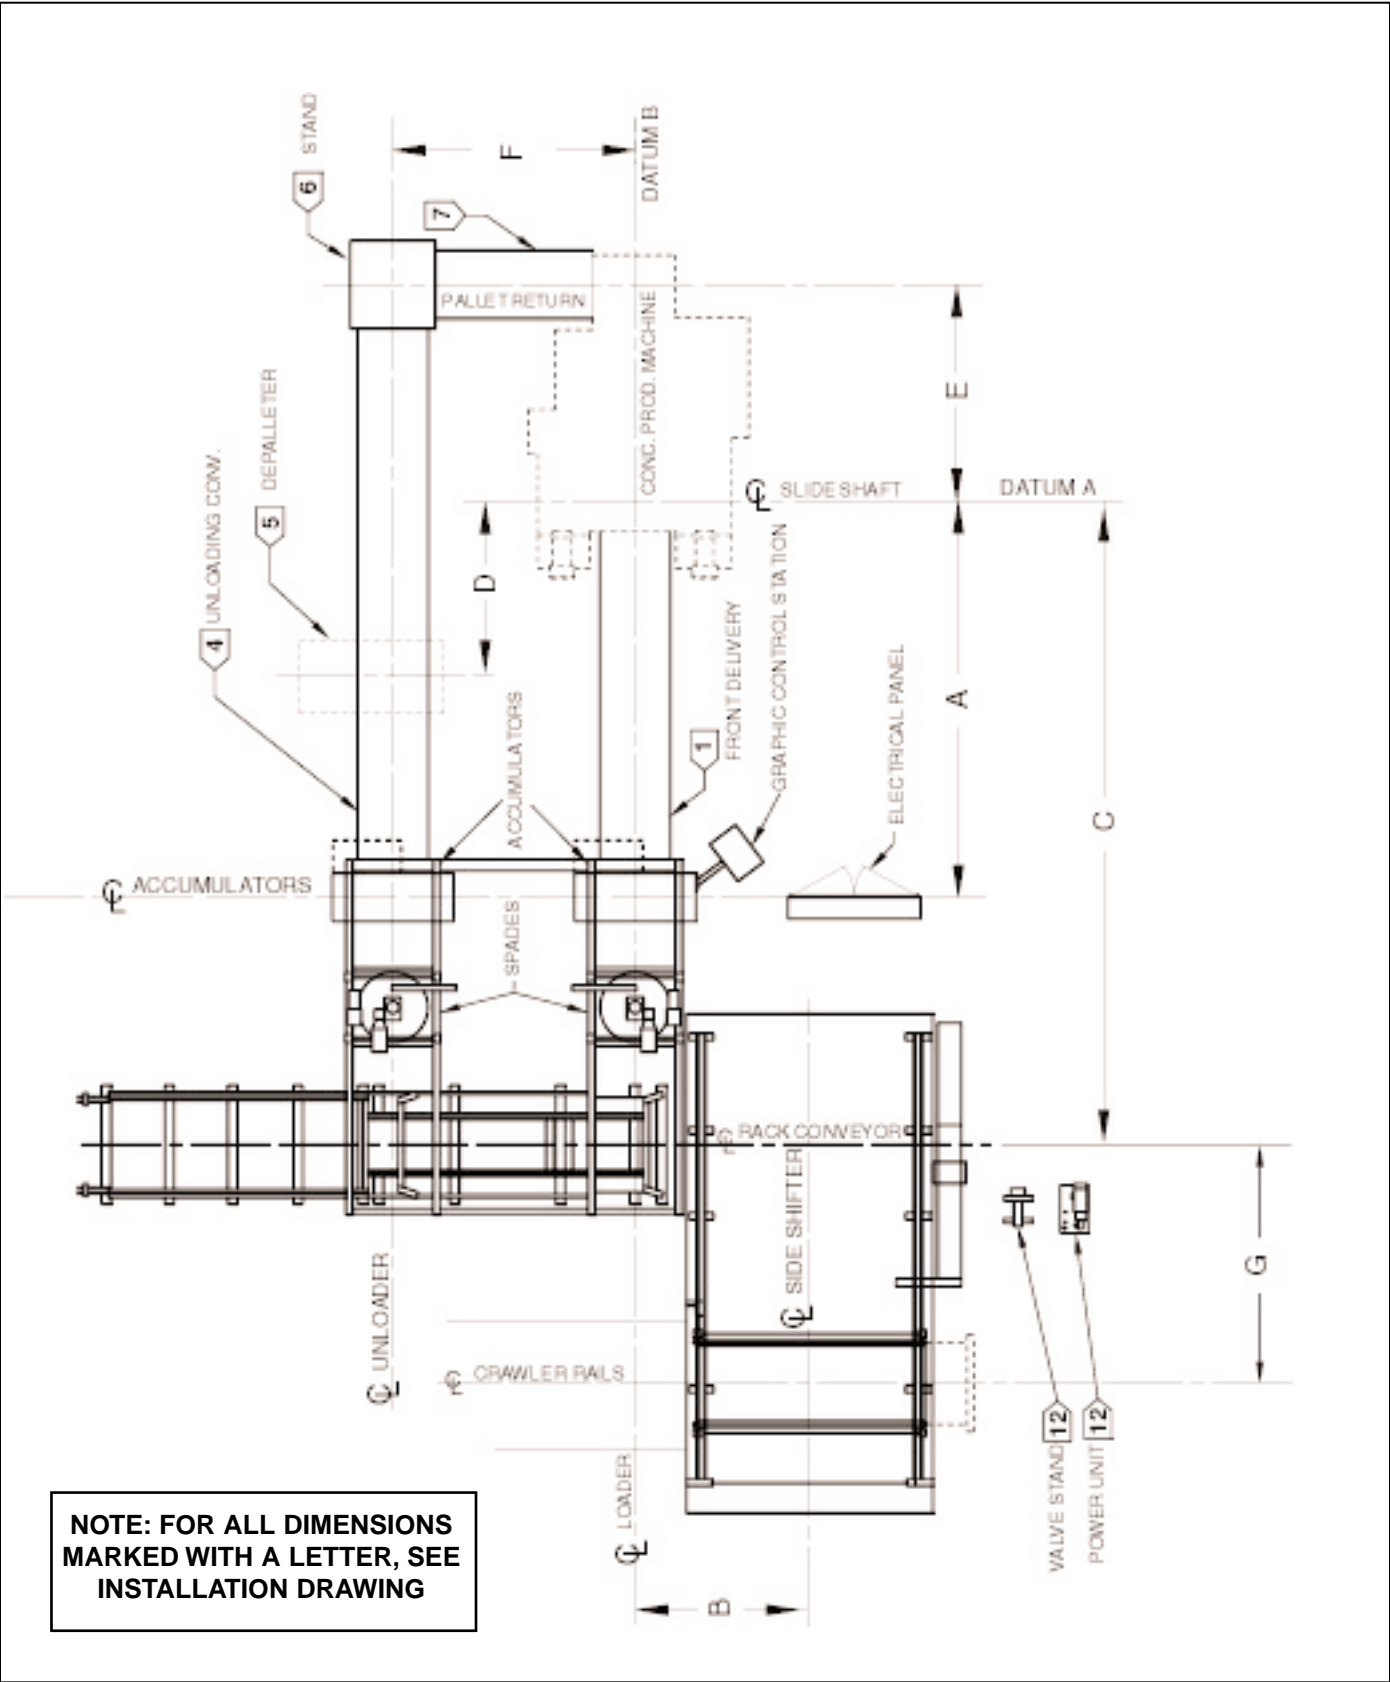

Figure 3.31 OVERALL INSTALLATION DRAWING (TOP VIEW).
Locate Rackveyor power unit and valve stand (item 12 in figure 3.31). Secure to floor with 1/2" X 3 3/4" L. [12.7mm X 95.25mm L.] anchor studs, 1/2" lockwasher and 1/2" hex. nut.
3.9.1.2 Position conveyor in line with Concrete Product Machine (see item 1 in figure 3.31).
3.9.2.2 Position conveyor in line with unloader center line (see item 4 in figure 3.31).
3.9.3.1 Locate pallet transfer stand (item 6 in figure 3.31).on center line of unloader and center line of pallet return.
3.9.5.1 Assemble pallet return section of conveyor (item 7 in figure 3.31) and locate on center line of pallet magazine of Concrete Product Machine.